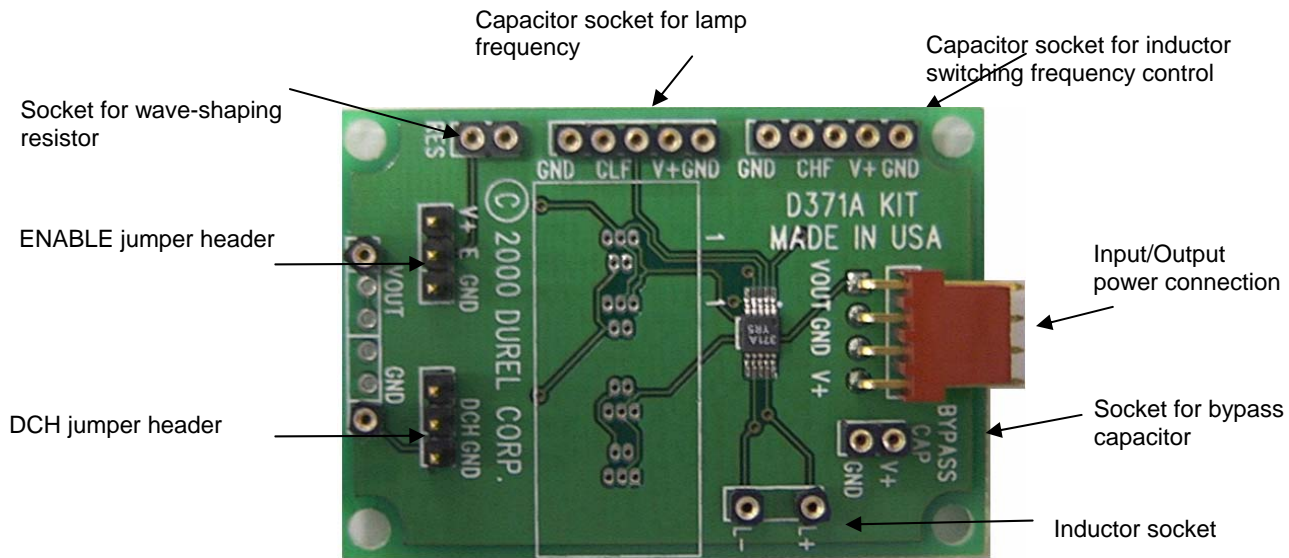

Figure 1: The D371A IC Designer's Kit Board
The Designer’s Kit Board (see Figure 1), which comes with a D371A IC already soldered to the board, is a useful tool for optimizing a D371A IC driver circuit for any application. Refer to the D371A IC datasheet as a guideline with sample circuits as a starting point of your design. Simply insert an appropriate value of inductor (L) and timing capacitors (CLF and CHF) into the labeled sockets, as shown in Figure 1, and connect your choice of wave-shaping resistor (R_{ES}) to complete your driving circuit. Additional sockets are provided in the Designer’s Kit Board for a bypass capacitor between V+ and ground (GND) to absorb electrical noise in the DC input.